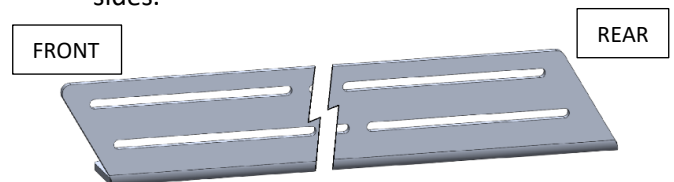
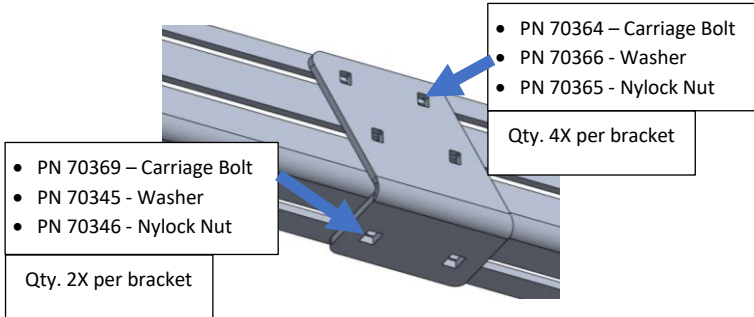

Figure 1: Side Rail Orientation
Figure 3: Side Rail Bracket Hardware Installation
- Using the associated carriage bolts and side rail brackets, connect the front and rear side rails together. Reference Figure 1 - Figure 3 for more